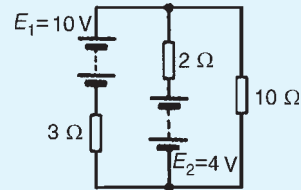
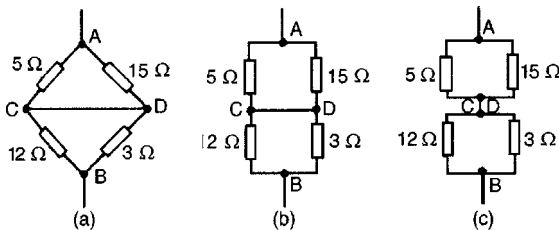

Figure 13.27
Figure 13.35
- 3. Use the superposition theorem to find the current in each branch of the network shown in Fig. 13.27
(viii) In Fig. 13.35(a), to find the equivalent resistance across AB the circuit may be redrawn as in Figs. 13.35(b) and (c). From Fig. 13.27(c), the equivalent resistance across AB